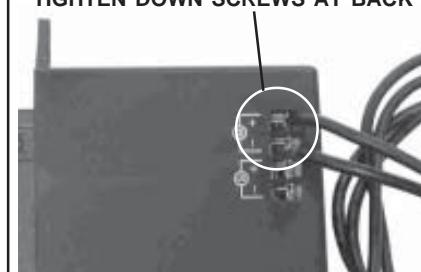

Figure 2
**Step 2.** Attach the open wire ends to terminal block marked "M" on the receiver by connecting the **marked wire to the positive (+)** terminal and the unmarked wire to the negative (-) terminal. Tighten down the retaining screws (See Figure 2).
6. Connect the other end of the wiring to receiver terminals as shown in Figure 2. Insert 4 AA batteries in the battery holder.